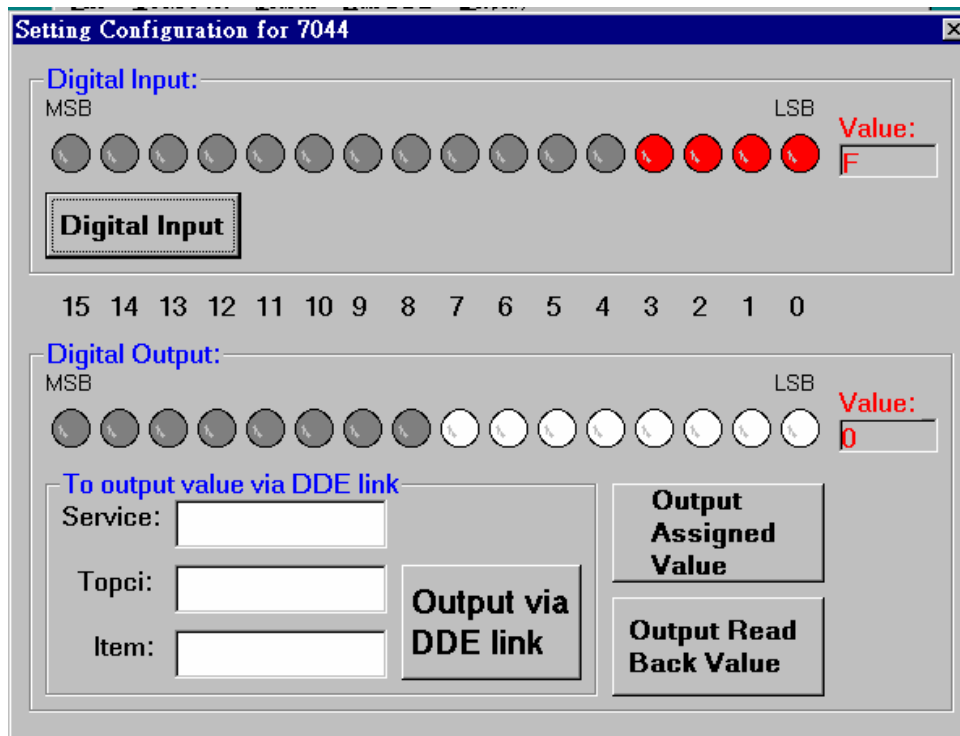

Fig 2-25 The *setting Configuration for 7044* window.
Step 3: After selecting 7044, a window titled *setting Configuration for 7044* will pop up as Fig 2-25 shown.